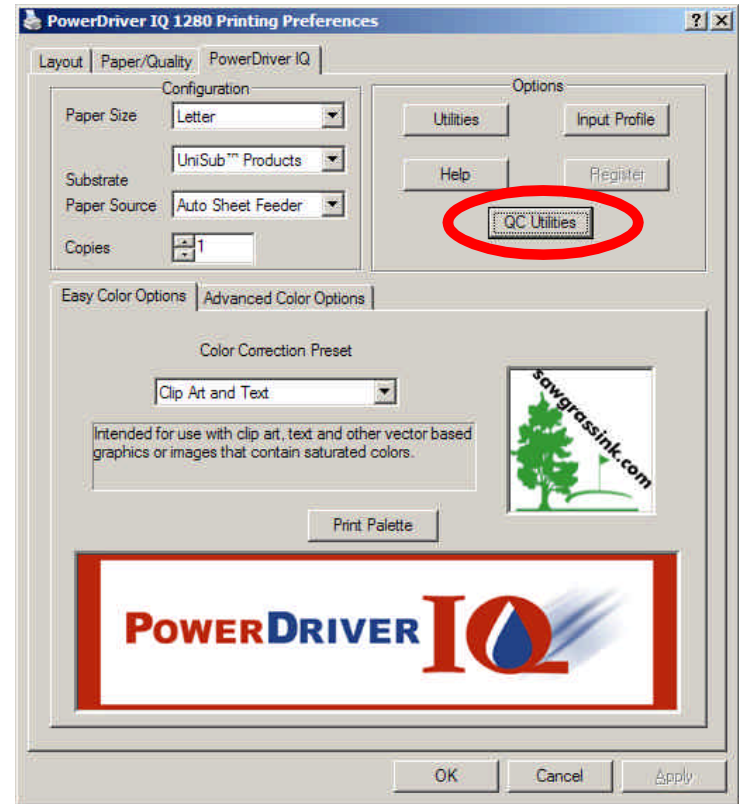

Fig. 3
- On the PowerDriver IQ Properties tab, click **QC Utilities**; see Fig 3.